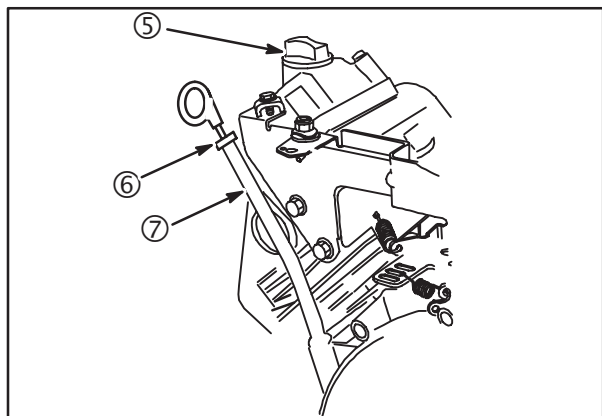

Fig. 18
For proper sealing on these models, the oil fill cap (5) has an O-ring, the dipstick has a grommet (6), **Fig. 18.**